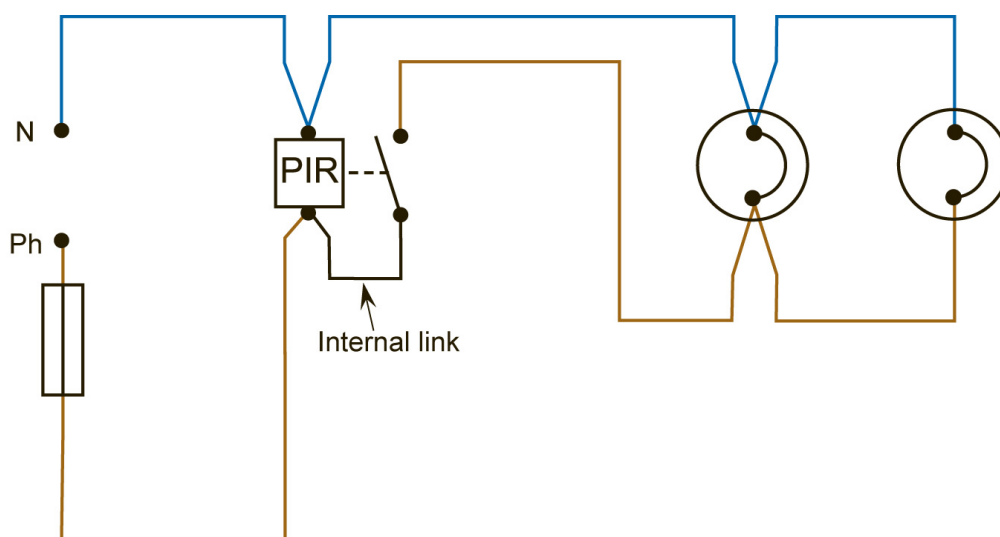
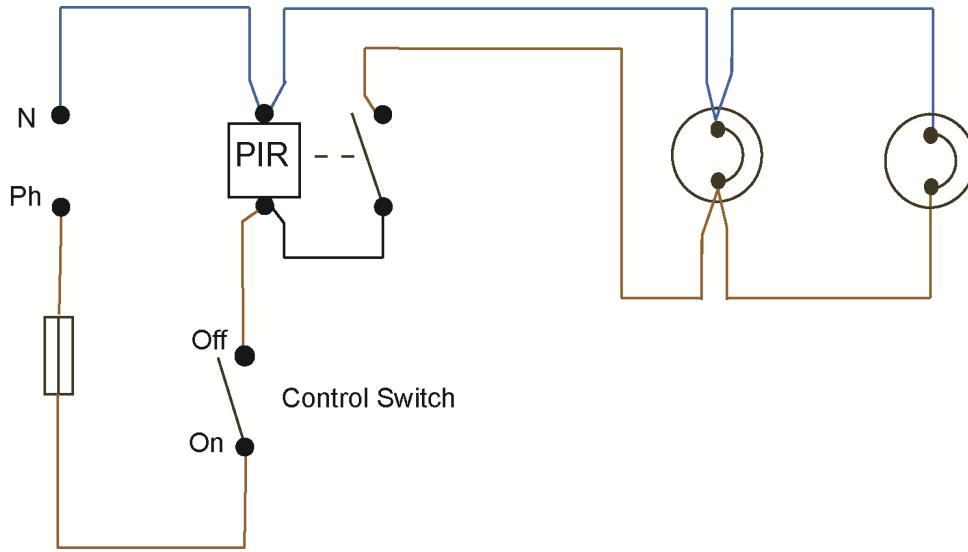

Figure 27
Figure 28
5. Adjustment of the unit during daylight hours is often facilitated via the control switch (See Figure 28) as follows:- Turn off the supply for approx. 10 seconds and then turn it on again. Adjustment is now possible.
Figure 27 shows a PIR controlling two lamps in parallel. It is more correct to have a switch in the supply to the PIR. See figure 28.